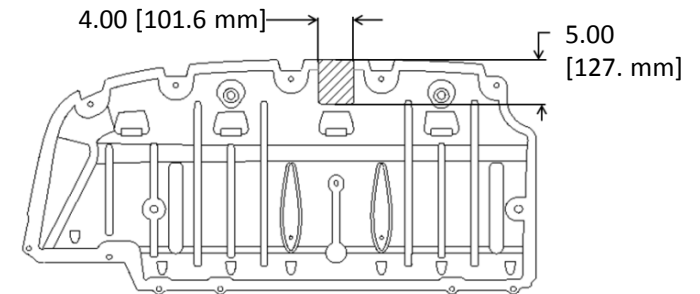

Figure 2
12. **Trim appearance panel:** Appearance panel will need to be trimmed or not reinstalled. Obtain owner permission before trimming. Trim appearance panel as shown. See figure 2. Reinstall if trimmed.